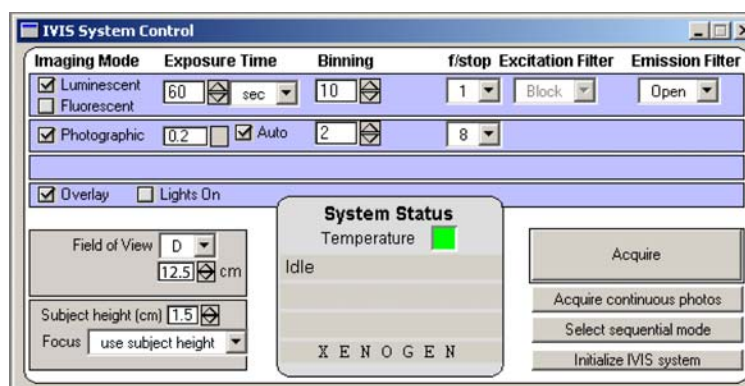

Figure A.2 IVIS System Control panel in the Living Image software
5. To initialize the system, click **Initialize IVIS System** in the IVIS System Control panel (Figure A.2).